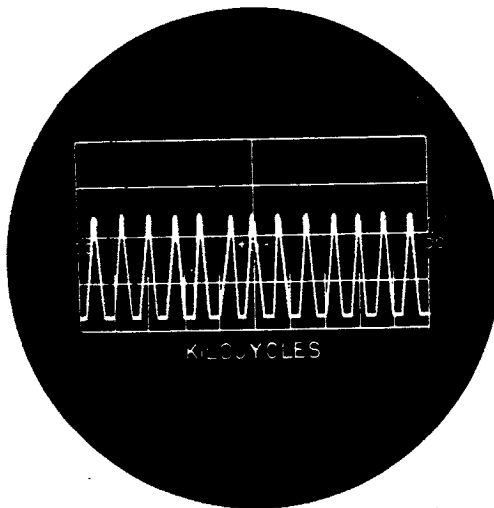

Figure 2. Typical Picture of a Signal Shown in Visible Single-Signal Operation (Overmodulated Tone Signal)
c. VISIBLE SINGLE-SIGNAL. Any one signal, within 100KC of the frequency to which the receiver is tuned, can be tuned in on the PANADAPTOR and shown on the Panoramic screen. Refer to Figure 2.